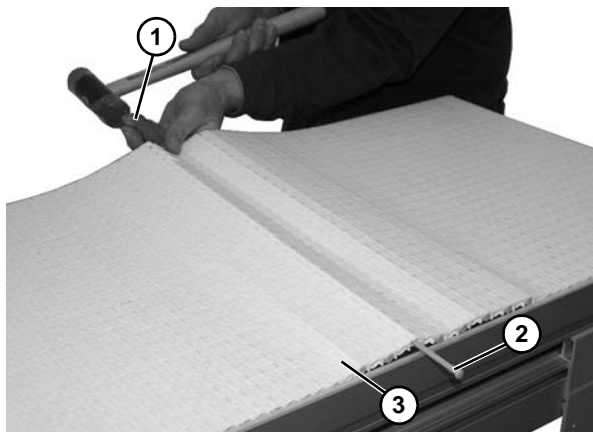

Figure 39
1. Use a punch and hammer to push the belt rod (**Figure 39, item 1**) out by striking the rod end opposite the retaining head (**Figure 39, item 2**).
2. Slide the old belt (**Figure 39, item 3**) off the conveyor frame.